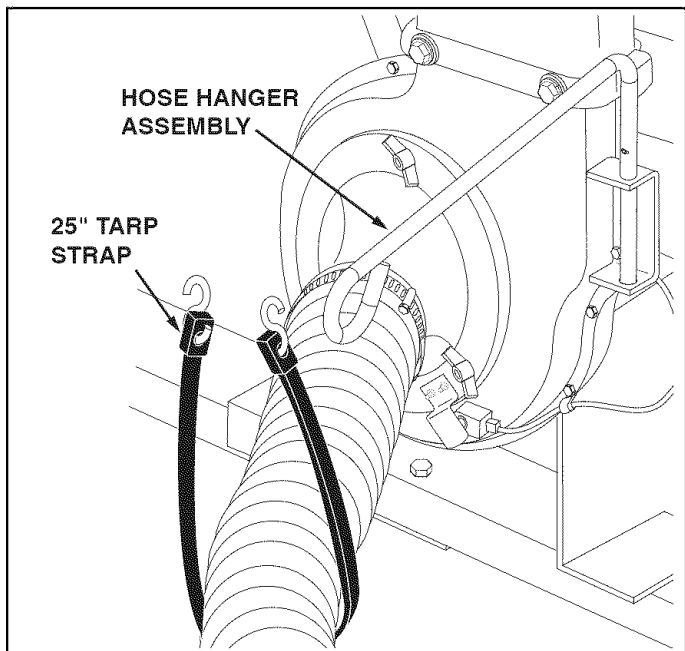

FIGURE 12
- Loop the 25" tarp strap under the hose. Fasten the hooks to the hose hanger rod assembly. See figure 12.